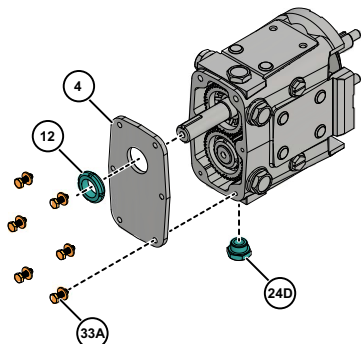

Figure 39 - Remove Gear Case Cover
1. Remove the oil drain plug (Figure 39, item 24D); drain the oil.
2. Remove the cap screws from the gear case (item 33A).
3. Pull the cover (item 4) off the shaft extension. If the cover sticks, use a soft hammer to loosen it.
4. Remove the silicone sealant (item 25) from the gear case and cover.
5. Using an arbor press, remove the oil seal (item 12) from the cover. Discard the used oil seal.